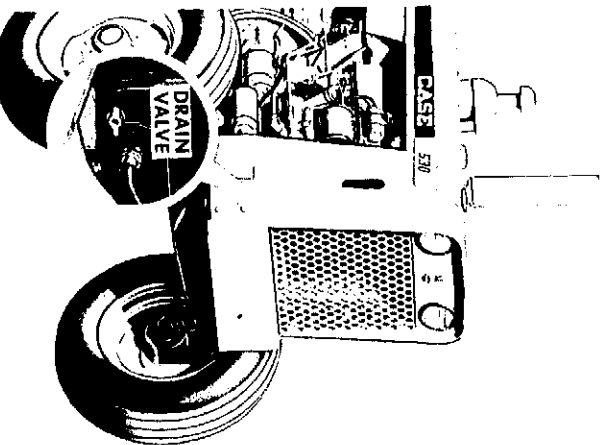
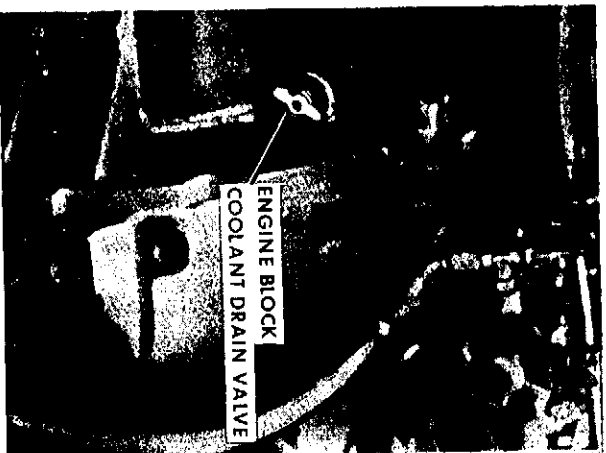

Figure 51
Figure 52
1. While the coolant is still hot, open the radiator drain valve, Figure 51, and the engine block drain valve, Figure 52. Drain all coolant and close both drains.